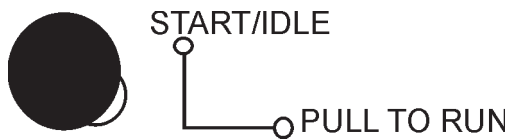

Figure 71. Engine Throttle Control (Low)
2. Place the engine throttle control in the "LOW" position (Figure 71).